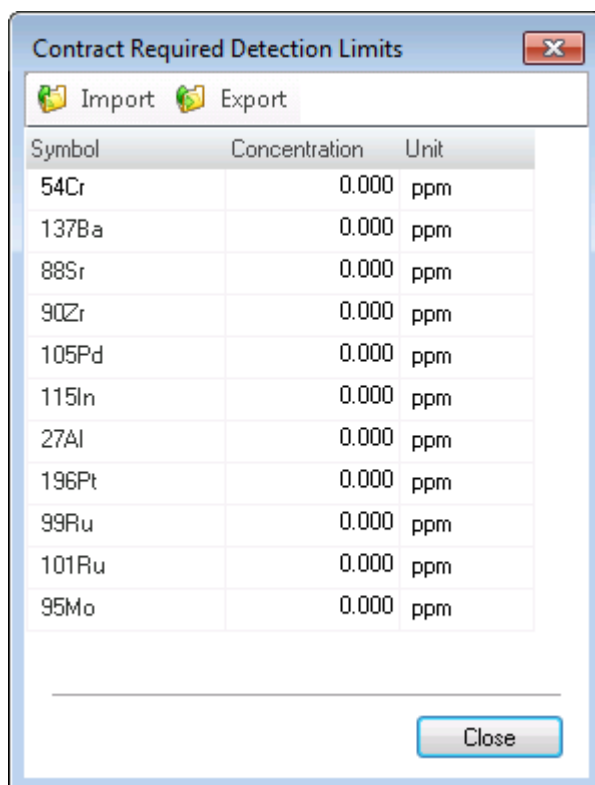

Figure 6-75. Contract Required Detection Limits window
- A dialog opens, see Figure 6-75.